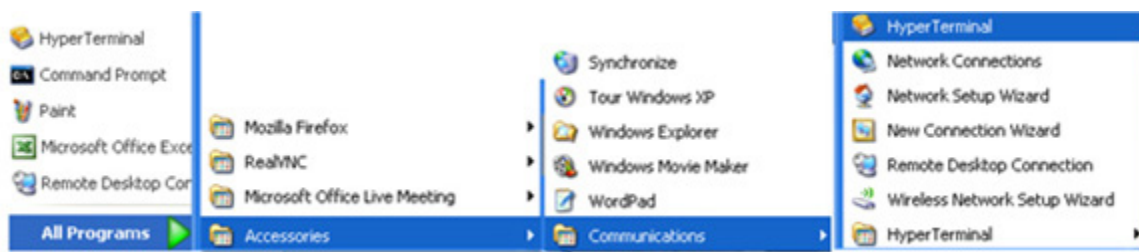

Figure G-8. Launch HyperTerminal application
- a) Open the HyperTerminal application as shown in Figure G-8.